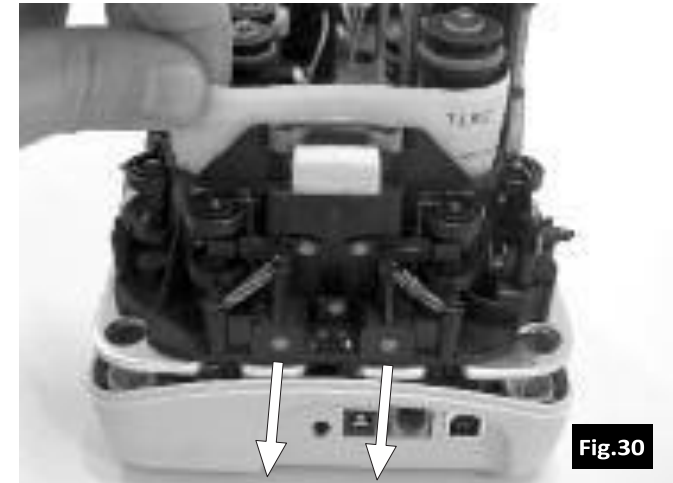

Fig.30
6. To remove the “U” track wall see Fig.30.